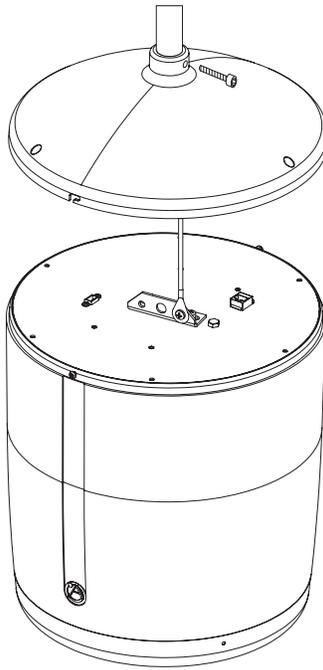

Figure 9
4. Screw the DA-PM8GD top cover onto the bottom of the down pipe, install the safety screw through the side of the top cover and through the end of the down pipe. (Figure 9)
6. Route the eyelet end of the safety cable down through pipe and the cover of the DA-PM8GD. Attach the eyelet to one of the outer mounting holes on the support plate of the DA-PM8GD using the included mounting screw. (Figure 9)
8. Position the speaker under the top cover, align the side cover screws and rotate the speaker clockwise to align the top cover mounting screw holes. Install the 3 mounting screws which are located in the hardware bag. Then tighten the side cover screws. (Figure 9)